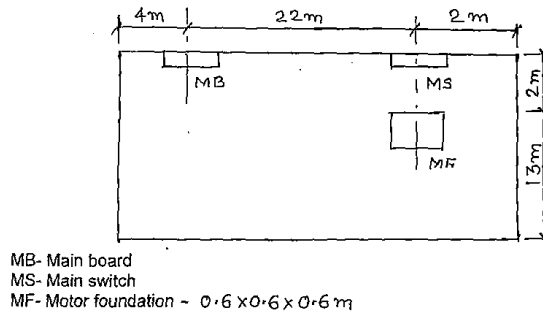

Figure 3.
i) In a workshop 10 hp (metric), 415 V, three-phase, 50 Hz. Motor is to be installed. Prepare the estimate required for the motor installation assuming PVC surface conduit type of wiring. The detailed plan is as shown in Figure 3.